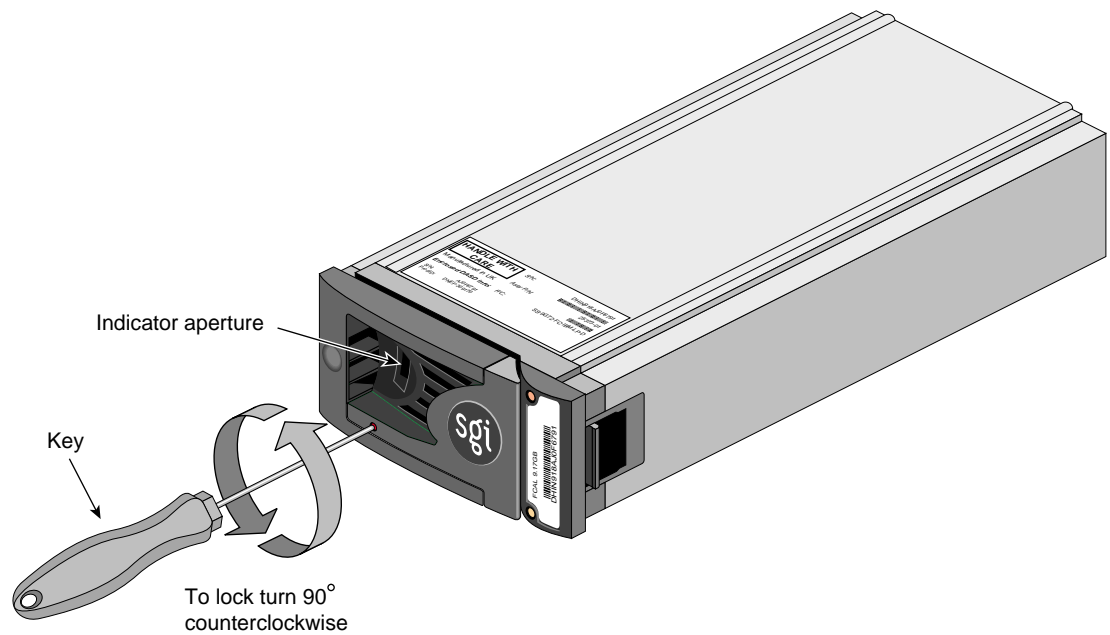

Figure 6-10 Locking the Disk Drive Module (Setting the Antitamper Lock)
- Carefully insert the lock key provided into the cutout in the handle trim. See Figure 6-10.